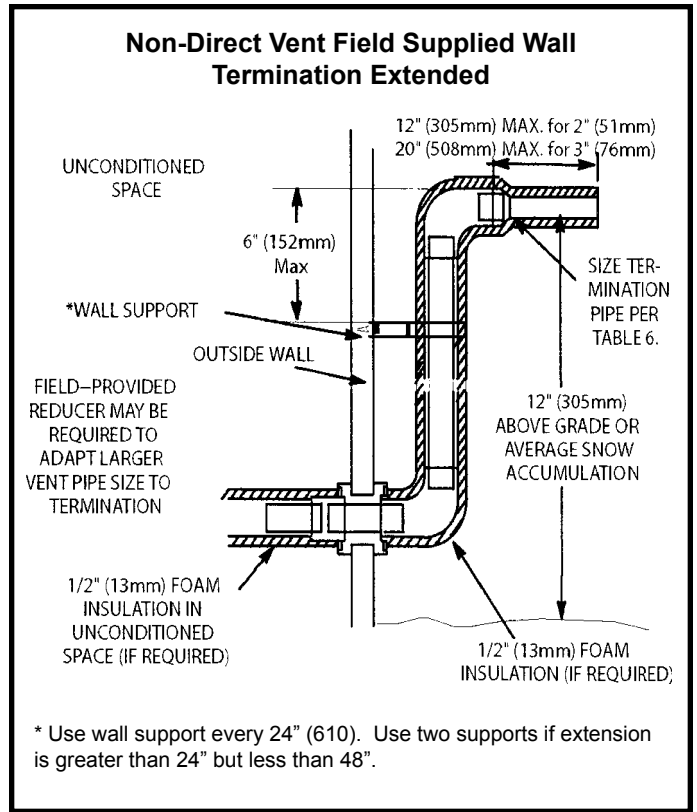

Figure 47
3. If exhaust piping must be run up a sidewall to position above snow accumulation or other obstructions, piping must be supported every 24" (610 mm) as shown in Figure 47. When exhaust piping must be run up an outside wall, any reduction in exhaust pipe size must be done after the final elbow.